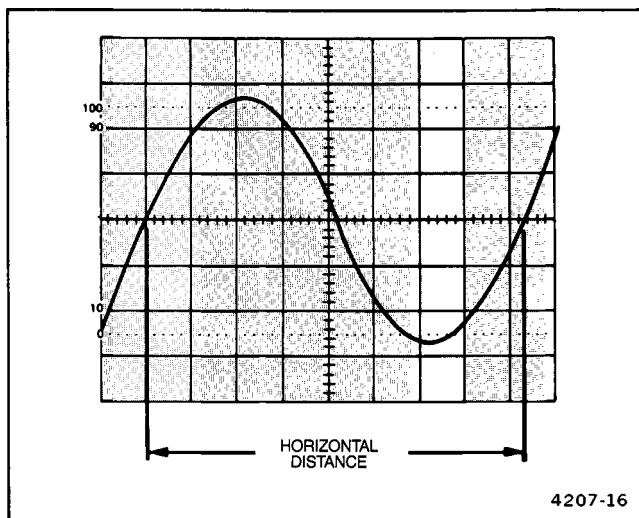

Figure 3-5. Measuring time duration.
4. Position the display to place the time-measurement points on the center horizontal graticule line (see Figure 3-5).
EXAMPLE. In Figure 3-5, the distance between the time measurement points is 8.3 divisions, and the SEC/DIV setting is 2 ms per division. Horizontal MODE is set to X1.
EXAMPLE. The signal in Figure 3-5 has a period (T) of 16.6 ms.